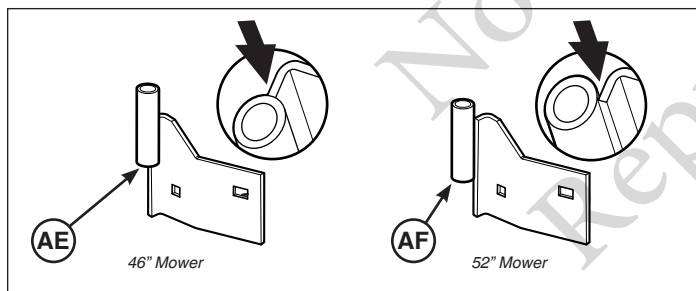

Figure 9
1. Select proper pivot bracket for the 46" or 52". See Figure 9.
- Note: 46" Mowers (AE) - Spacer provided with pivot bracket.*